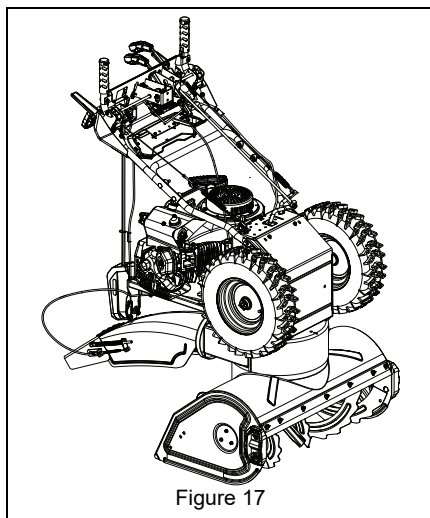

Figure 17
See Figure 17.
1. Place unit in service position (see Figure 17).
1. Place unit in service position. (see Figure 17).